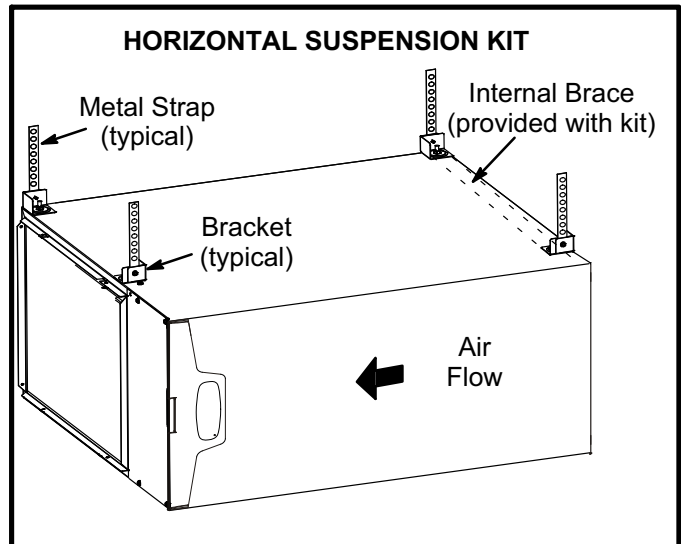
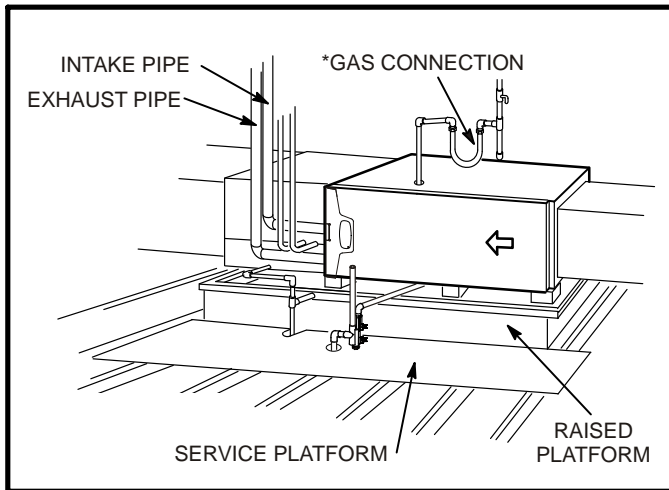

FIGURE 18
FIGURE 19
This furnace may be installed in either an attic or a crawlspace. Either suspend the furnace from roof rafters or floor joists, as shown in figure 18, or install the furnace on a platform, as shown in figure 19. A horizontal suspension kit (51W10) may be ordered from Lennox or use equivalent.
- 2 - Construct a raised wooden frame and cover frame with a plywood sheet. If unit is installed above finished space, fabricate an auxiliary drain pan to be installed under unit. Set unit in drain pan as shown in figure 19. Leave 8 inches for service clearance below unit for condensate trap.